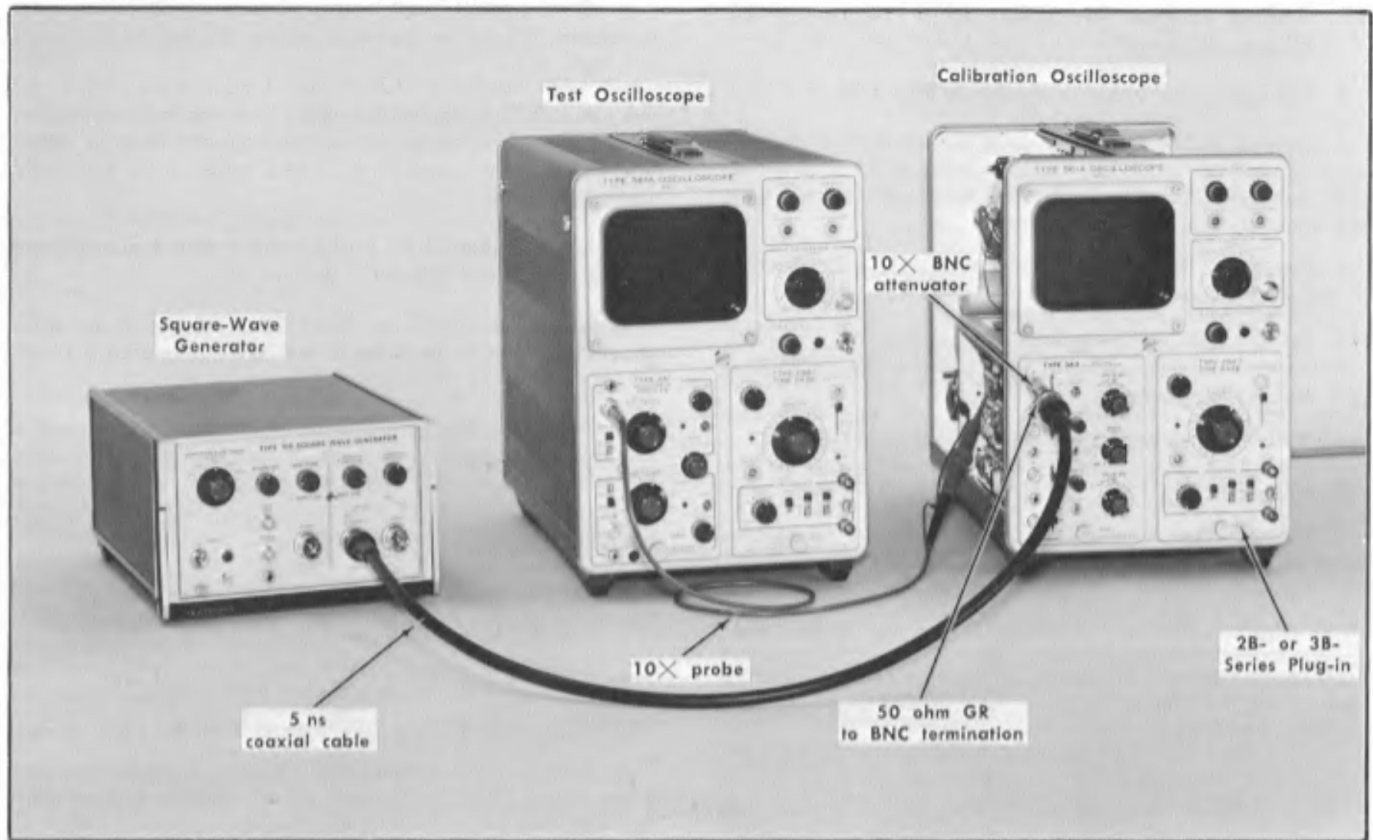

Fig. 6-22. Initial test equipment setup for steps 37 through 39.
- s. Disconnect the 10X probe from ground and connect it to pin 8 of V583; see Fig. 6-22.
- a. Test equipment setup is shown in Fig. 6-22.